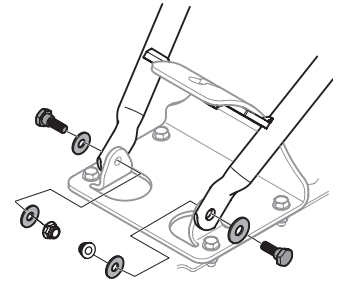

Figure 3
5. Loosely attach the handlebars to the mounting tabs with two shoulder screws (.437 x .268: 5/16-18), inserted through two washers (.439 x .817 x .061), then through the lower ends of the handle and the front holes on the bracket. Add flat washers (.349 x .879 x .063) on the ends of each and secure them by threading a hex nylock nut (5/16-18) on each end. See Figure 3.